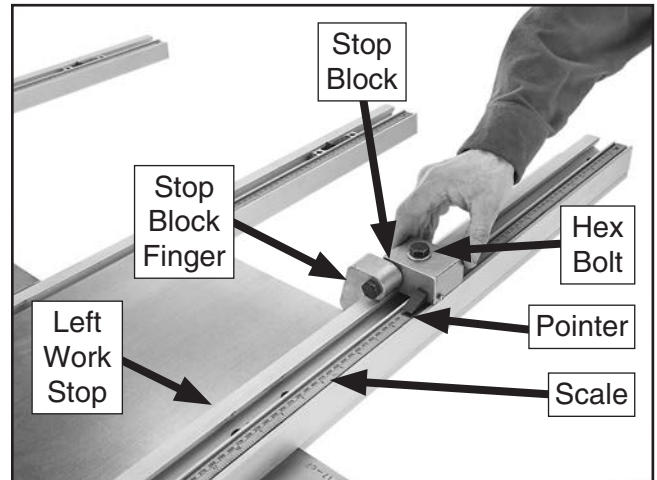

Figure 33. Positioning stop block on left work stop to cut workpiece.
2. Loosen hex bolt and move stop block to match measurement in **Step 1** (see **Figure 33**). Tighten hex bolt.
3. Place stop block finger in down position, as shown in **Figure 33**.